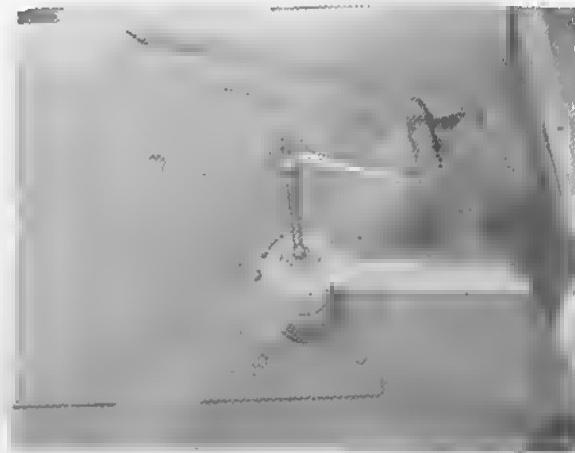
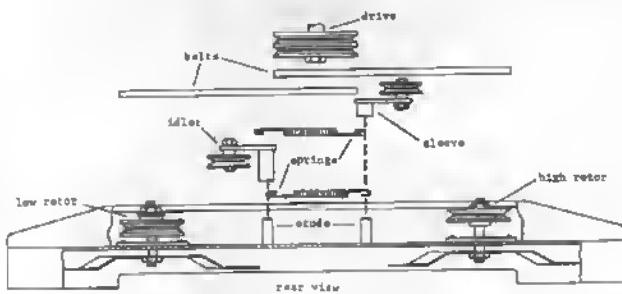

fig 9
fig 2
3. **BLADE REMOVAL:** STOP the engine, Put the PTO in the OUT position. Put the operating levers in NEUTRAL. BE SURE the blades have stopped. Remove the mower from the tractor. Turn the mower upside down. Hold the rotor shaft with a 3/8" socket drive and remove the nut with a 15367E1 Gravely Wrench or equivalent, fig 9. Do not use the top spindle nut to hold the spindle from turning.
3. Mount the idlers on the studs as in fig 2. Note the different sleeve lengths of the idlers. The short sleeve goes next to the high rotor and the tall sleeve goes next to the low rotor. Set the idlers on the studs with the extended sleeves down. Work from the rear of the mower.
5. Hook the springs to the idler assembly from underneath as in figs 2 & 4, solid lines.
7. BELT REMOVAL: Remove the belt covers. Unhook one end of each spring; use a spring puller or clamp-lock pliers. Remove the drive. Remove the belts. See figs 2, 3, & 4. fig 1, Item 14 and 15. Hold the rotor shaft with a 3/8" socket drive and torque the nut to 100 ft. lbs. Similar tightness can be reached with a Gravely 11367E1 Wrench or any 16" length handle wrench when used by an average man, fig 9.